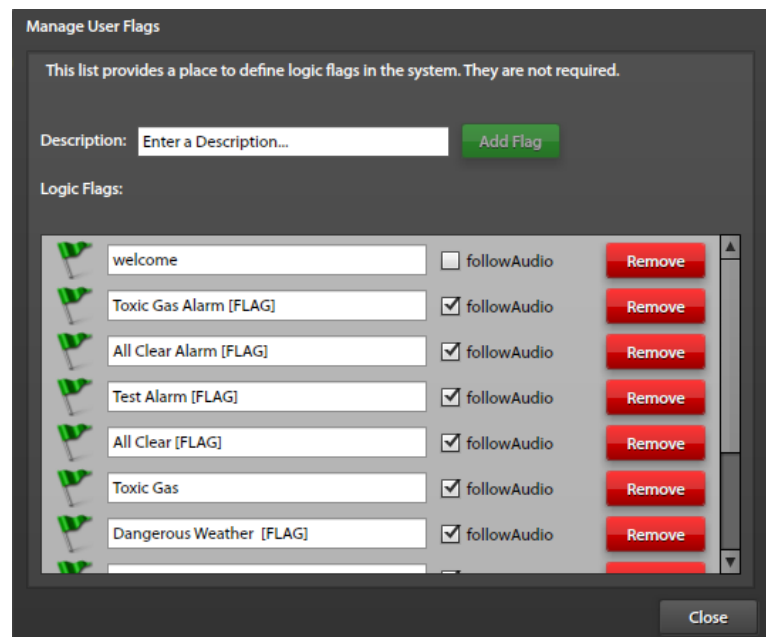

Figure 17. Manage User Flags
1. Click the USER FLAGS button from the SYSTEM PROPERTIES screen to open the MANAGE USER FLAGS screen (see Figure 17).